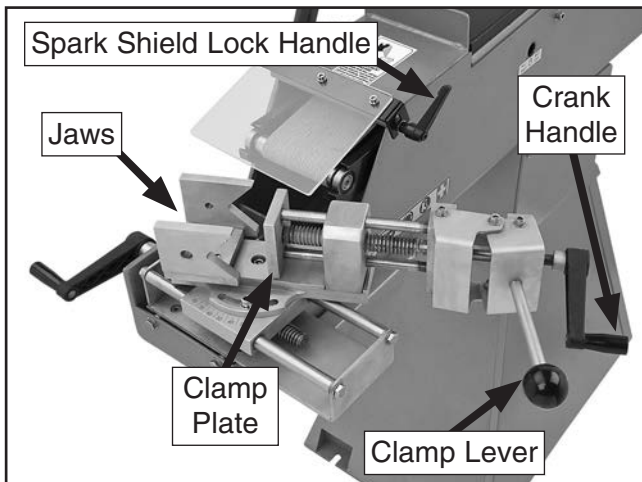

Figure 30. Vise clamping controls.
- Use crank handle (see **Figure 30**) to adjust space between clamp plate and jaws to accept tube.
- Loosen clamp lever (**Figure 30**), then use crank handle to position clamp plate within 1/16" of tube.
- Position spark shield over profile roller and lock it in place (see **Figure 30**).